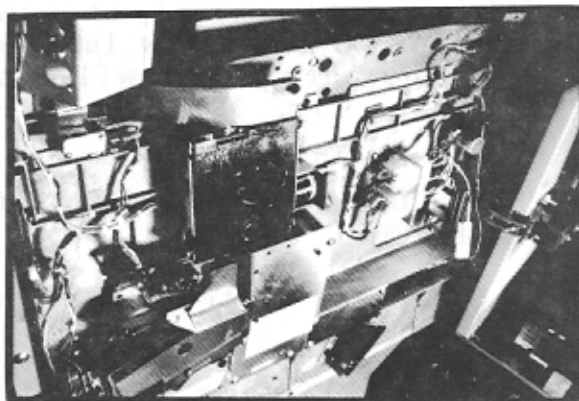

Fig. 36
1. Open the front door using key provided and locate coin acceptor mechanism (see Fig. 2, pg. 4, & Fig. 36). Turn off main power switch.